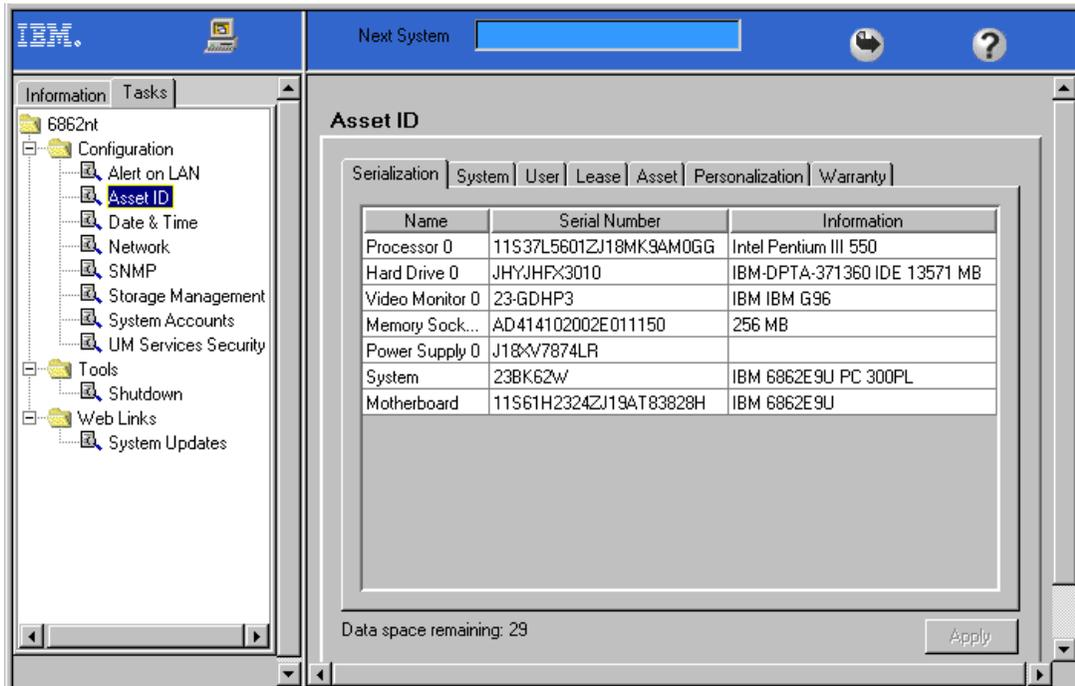

Figure 111. Asset ID window in UM Services browser
18. Click the **Asset ID** option in the Tasks window. Figure 111 appears.